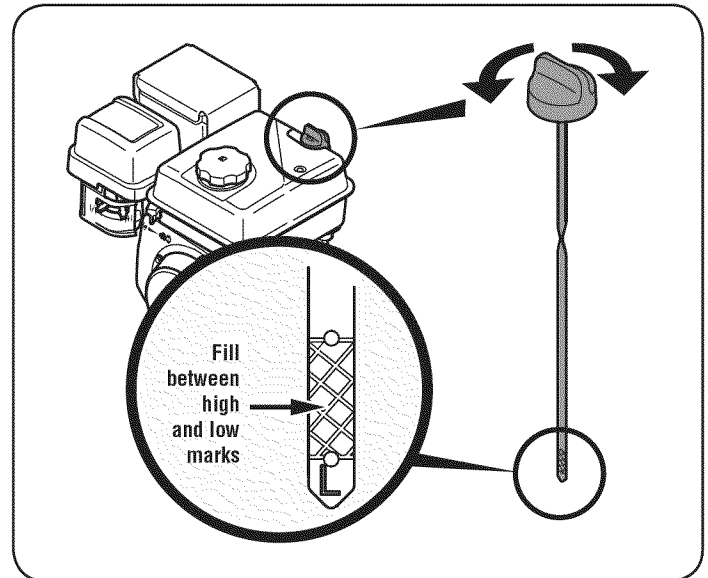

Figure 9
- Remove the oil filler cap/dipstick and wipe the dipstick clean. See Figure 9.
- Remove the oil filler cap/dipstick. If the level is low, slowly add oil until oil level registers between high (H) and low (L), Figure 9.
7. If the wheels do not spin with the tiller in forward, loosen the upper nut and adjust by tightening the cable a few turns counter-clockwise (when standing in the operator's position) and then retighten the upper nut against cable bracket. See Figure 9.